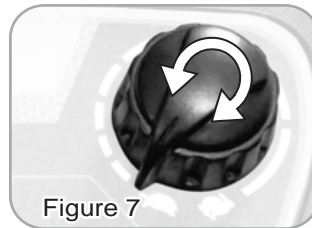

Figure 7
- The dial knob allows you to adjust the speed of you scooter. (Figure 7)